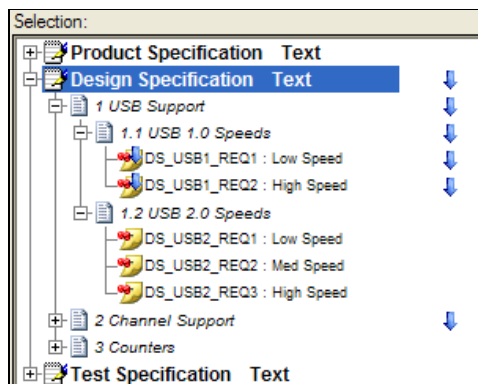

Figure 4-11. Derived and Non-Derived Requirements
1. Expand the **Design Specification** document in the Selection column to display the derived requirements, `DS_USB1_REQ1` and `DS_USB1_REQ2`, and the non-derived requirements, `DS_USB2_REQ1`, `DS_USB2_REQ2`, and `DS_USB2_REQ3`, as shown in Figure 4-11. Requirements Gateway displays different icons for derived and non-derived requirements, and displays a navigation arrow icon to the right side of the requirement to highlight derived requirements.